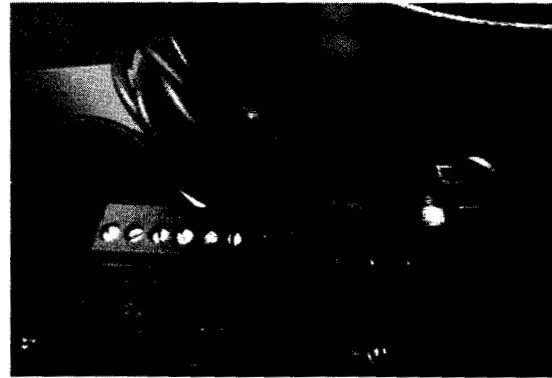

Figure 10 – Connected 10 Position Connector
6. Plug the 10 position connector into the connection provided on the board. See Figure 10.